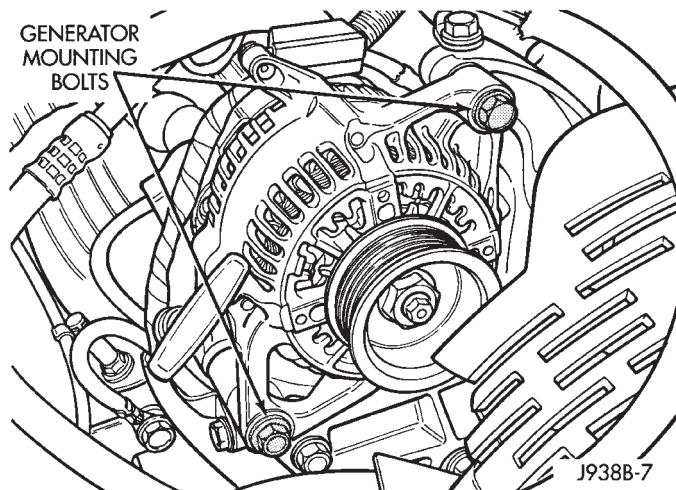
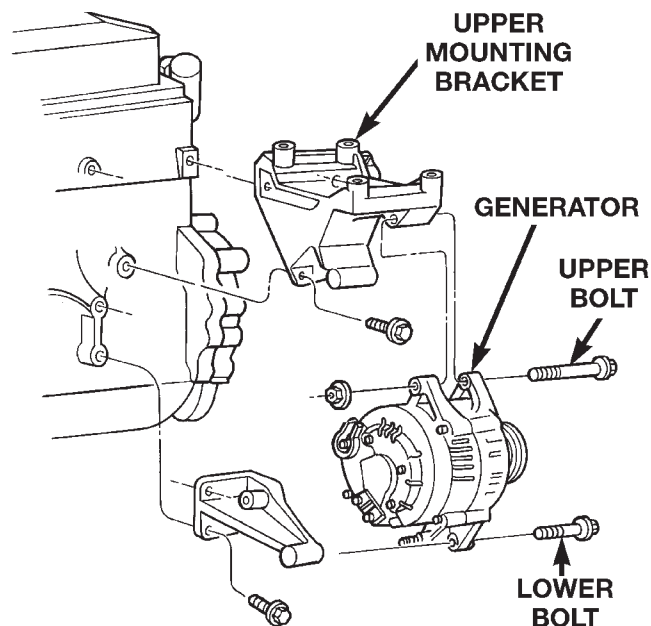

Fig. 4 Remove/Install Generator—5.2L/5.9L Engine
Fig. 5 Remove/Install Generator—4.0L Engine
- (1) Disconnect negative battery cable at battery.
- (2) Remove generator drive belt. Refer to Group 7, Cooling System for procedure.
- (3) Remove generator pivot and mounting bolts/nut (Fig. 4) or (Fig. 5). Position generator for access to wire connectors.